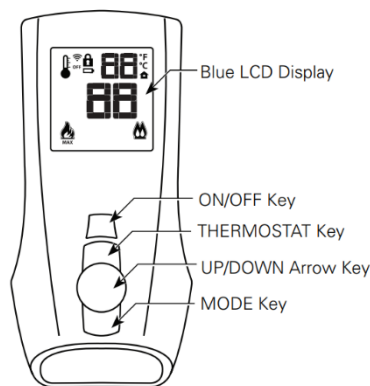
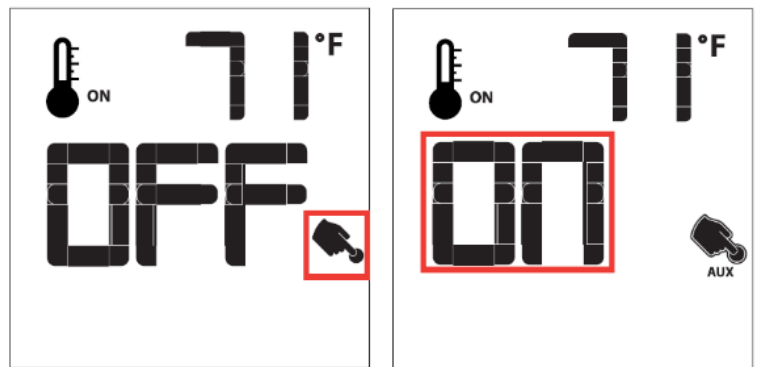
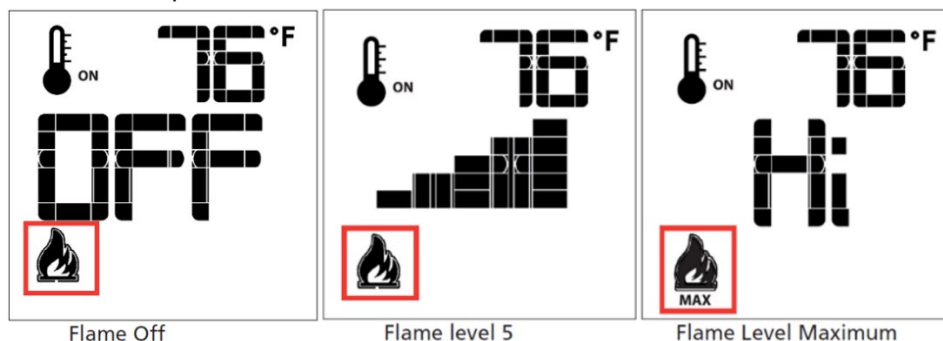
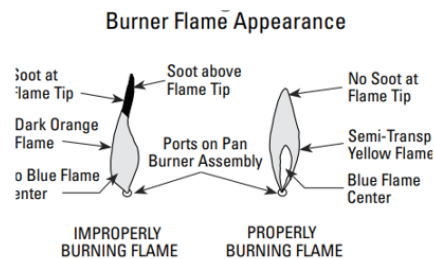

FIGURE 62
FIGURE 63
FIGURE 64
FIGURE 66
Press the ON/OFF key on the Remote (**Figure 62**). A single beep from module will confirm command. Press the MODE Key until AUX icon is visible (**Figure 63**). Pressing the Up Arrow Key will turn the AUX to “ON” and this will activate the ADC100 to power on the fan and damper. Press the MODE Key until Flame Level screen appears (**Figure 64**) then press the ON/OFF key to turn off system. The fireplace system will now initialize once the remote “ON” key is pressed.
The system has six (6) flame levels. See (**Figure 66**) for an example. With the system on, and the flame level at the maximum in the appliance, pressing the Down Arrow Key once will reduce the flame height by one step until the flame is turned off. The Up-Arrow Key will increase the flame height each time it is pressed. If the Up Arrow Key is pressed while the system is on, but the flame is off, the flame will come on in the high position (**Figure 64**). A single “beep” will confirm reception of the command.
Adjusting the appliance to cause the flames to turn orange sooner may result in poor combustion, sooting and a hazardous situation. See (**Figure 66**) showing proper flame appearance.